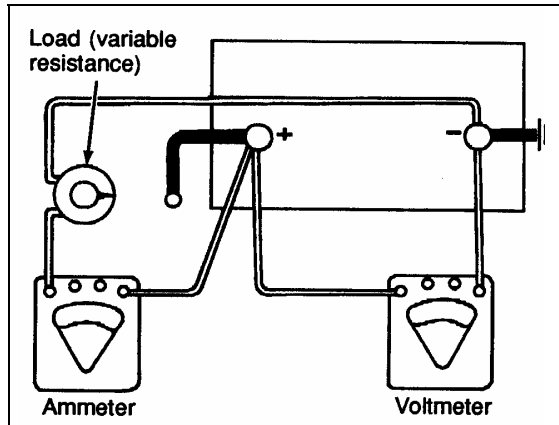

FIGURE 29: LOAD TEST
1. Connect a voltmeter, ammeter, and a variable load resistance as illustrated in figure 29.